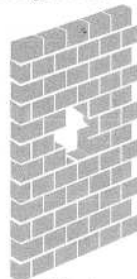

FIG. 1
4. Drill some small holes on the brick wall at the size about 134mm area, or chop an irregular size hole (no bigger than 130mm square). These holes are for the air to go through. (see fig 1 & 2) and drill 4 holes for mounting the unit purpose (see fig 1 & 2).
2. Cut a round hole with diameter between $\text{Ø } 134\text{mm}$ and $\text{Ø } 137\text{mm}$ (suggested size $\text{Ø } 135\text{mm}$) - (see fig 1)